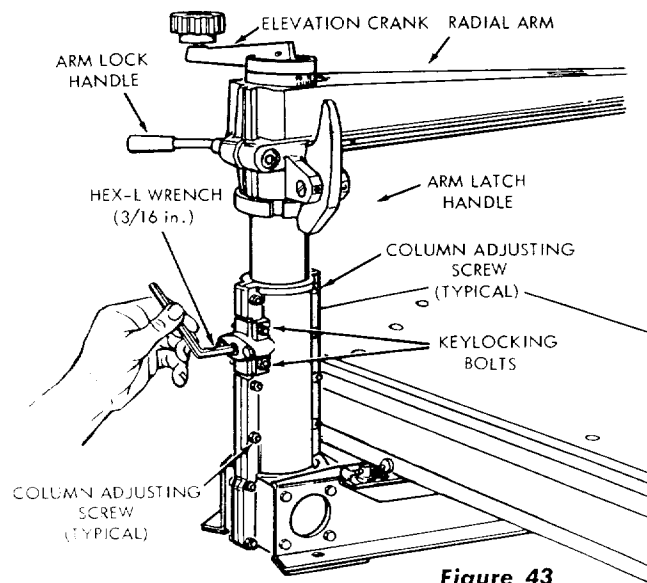

Figure 43
- (1) Move the radial arm to the center (crosscut) position and engage the arm latch handle (figure 43) in the detent notch. Tighten the arm lock handle.
- (2) Apply side force with one hand on radial arm in both directions. If side play can be felt, an adjustment is required.
- (3) Loosen keylocking bolts (figure 43) and insert a 3/16-inch hex-L wrench into the socket-head set screw that adjusts the column tube wedge key, as shown in figure 43. Rotate the set screw slowly in (clockwise) until no side play can be felt in radial arm, when checked as in the preceding step.
- (4) Check for binding by rotating the elevation crank (figure 43). If the crank rotates with noticeable resistance, loosen the set screw by rotating the hex-L wrench counterclockwise until rotation is normal. An effective method for finalizing the set screw adjustment is to rotate the screw while the elevation crank is being rotated, checking for side play in radial arm as the adjustment progresses. The adjustment is correct when all side play of radial arm is eliminated and only very slight additional resistance can be felt when rotating the elevation crank.
(a) While rotating the elevation crank, tighten the five column adjusting screws slightly at the forward edge of column supports. (See figure 43.) Each screw should be tightened only slightly, and each one the same amount, until a slight resistance can be felt when rotating the elevation crank, then each screw backed off just enough to restore a normal feel to the elevation crank.
(b) Recheck the adjustment of the column tube, wedge-key set screw (figure 43) as outlined in preceding instructions.
(6) After the above adjustments have been completed, re-check the radial arm for absence of side play and lock the column tube key in place by tightening the two keylocking bolts (figure 43).